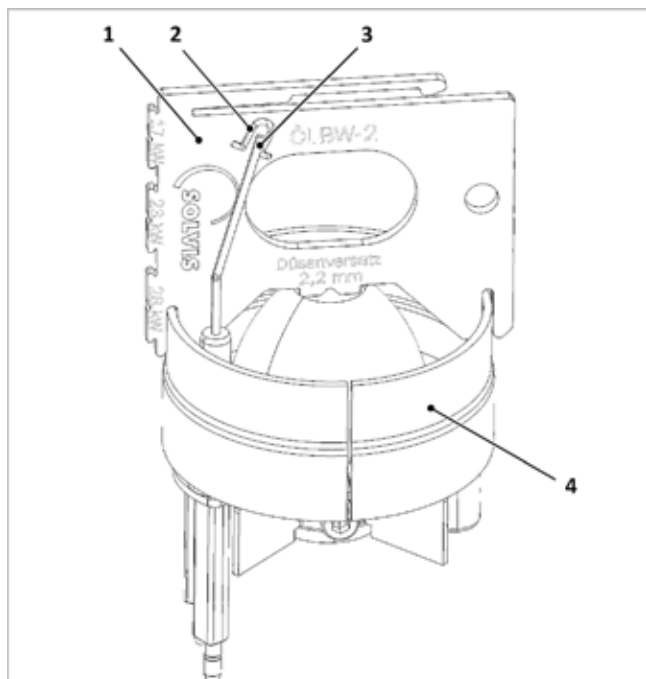

Fig. 144: Check the ignition electrodes
1. Check the position of the electrodes (3) as shown in → fig. 144 and correct by bending them, if necessary.
2. Check the minimum length. The lower end of the control window (2) of the setting gauge specifies the